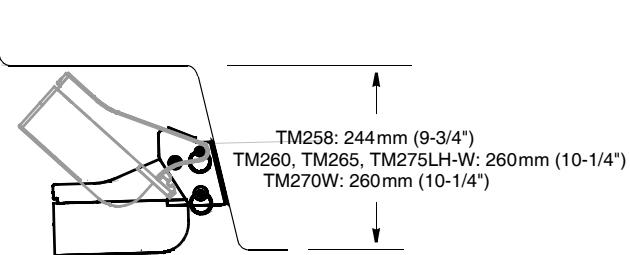

Figure 2. Stepped transom space requirement
- **Stepped transom**—Mount the transducer on the lowest step being sure there is enough space above the bracket for it to release and rotate the transducer upward (see Figure 2).